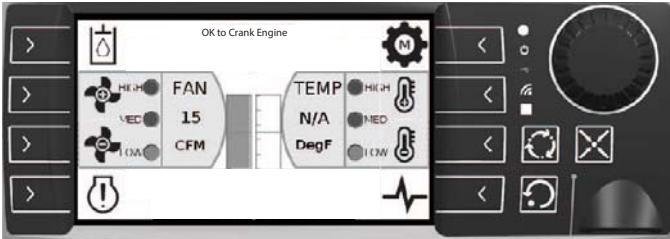

Figure 3-1. OK to Crank Engine
3. Switch positive air shutdown to OFF (O).
4. Switch battery disconnect to ON (I).
6. On control panel, switch MAIN POWER to ON (I).
7. See Figure 3-1. Wait for controller to display OK To Crank Engine (A).